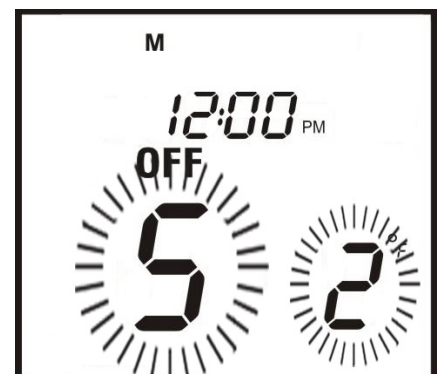

Fig. 24. Setting swing temperature
- To store the “swing” setting press the SET button, and the new “swing” setting will be automatically programmed. (See Fig. 24)